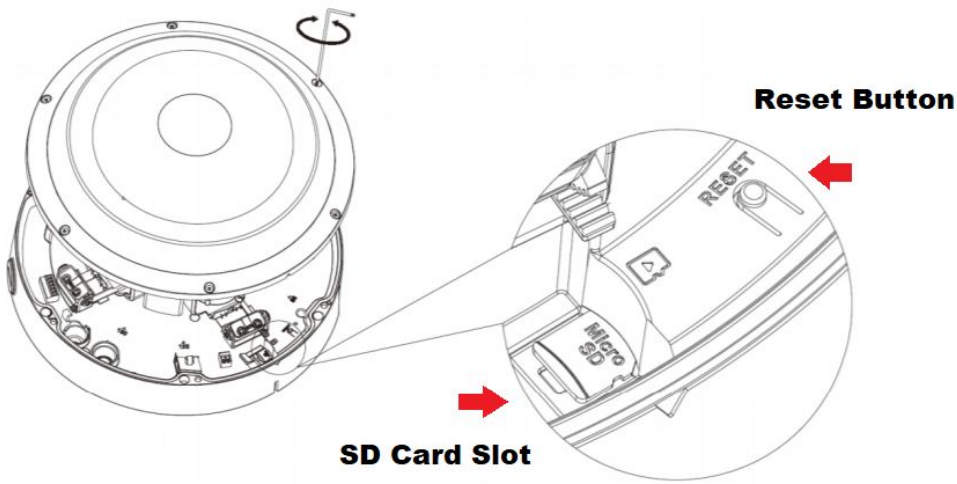

Figure 2-8
Step 2 Slightly press the RESET button for 15-30 seconds to complete the reset function. See Figure 2-8. The camera will reboot when the reset process is complete.
Step 3 (If installing SD Card) Adjust the Micro SD Card to a proper direction shown in Figure 2-8.